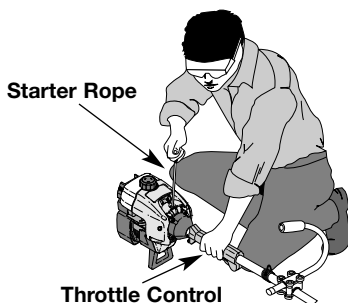

Fig. 20
WARNING: Avoid accidental starting. Be in the starting position when pulling the starter rope (Fig. 20). The operator and unit must be in a stable position while starting to avoid serious personal injury.
5. With the unit on the ground, squeeze the throttle control and hold. Pull starter rope briskly (Fig. 20). Continue pulling until the engine sounds as though it wants to run (normally 2 to 5 pulls).
7. Pull starter rope briskly 1 to 3 times to start the engine (Fig. 20).
1. Release your hand from the throttle control (Fig. 20). Allow the engine to cool down by idling.